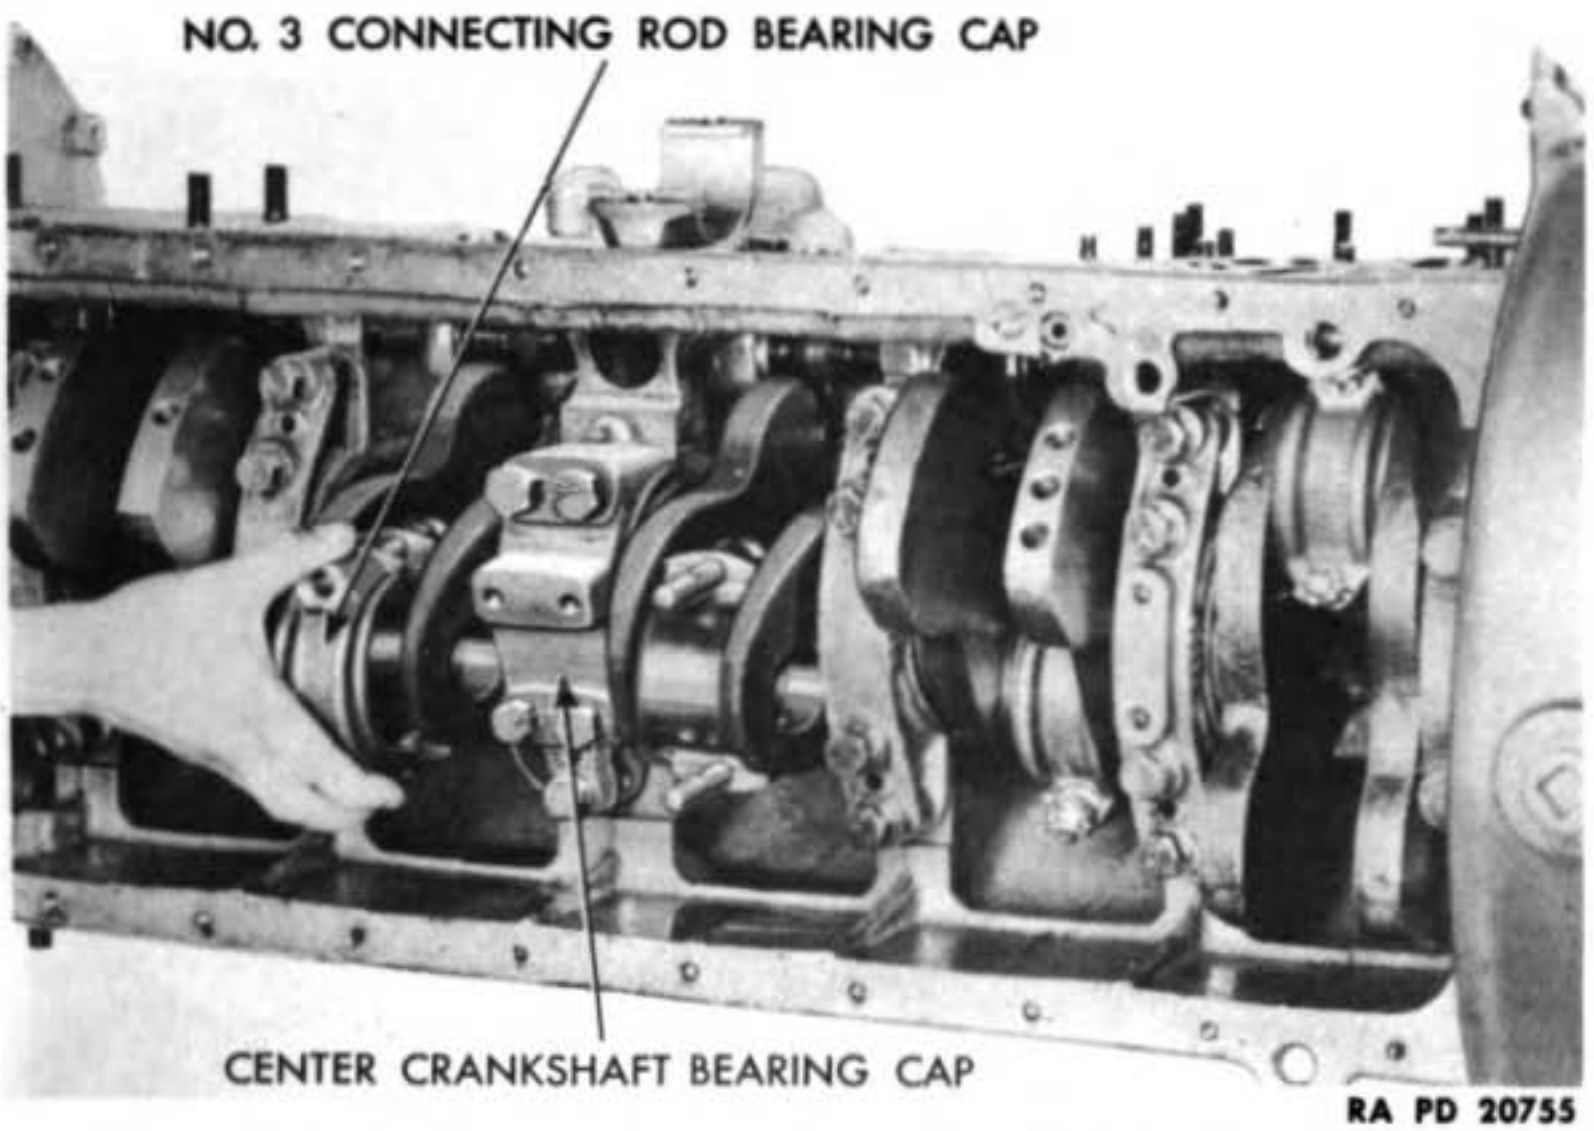

Figure 23 — Removing Connecting Rod Bearing Cap
j. Remove Connecting Rods and Pistons. Remove cotter pins from connecting rod bolts. Remove two connecting rod bolt nuts, and pull off bearing cap and lower half of connecting rod bearing (fig. 23). Rotate crankshaft until piston is flush with top of cylinder block. Tap the connecting rod with a hammer handle to force piston out of crankcase so that rod and piston assembly can be pulled out through top of cylinder block (fig. 24). Replace cap on connecting rod, and insert connecting rod bolt nuts finger-tight. Remove remaining five rods and pistons in same manner.